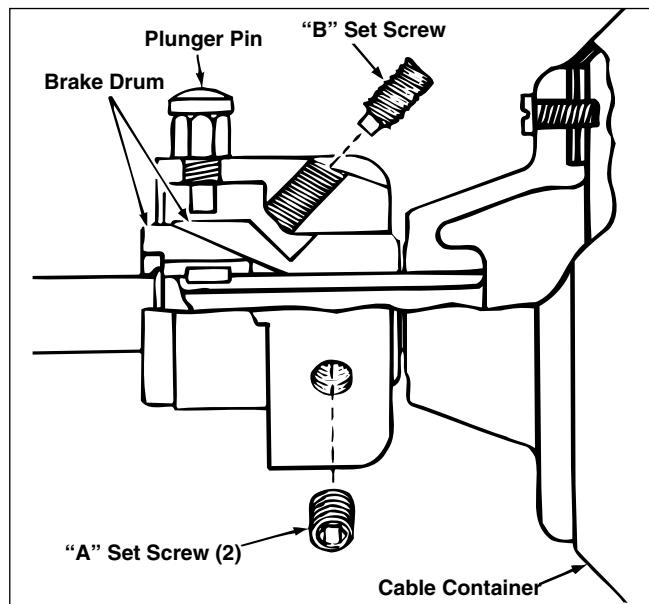

Figure 9 – Cable Adapter
4. Slightly loosen two set screws "A" using a $5/32$ " hex wrench (Figure 9).
5. Turn set screw "B" clockwise $1/4$ turn (Figure 9).